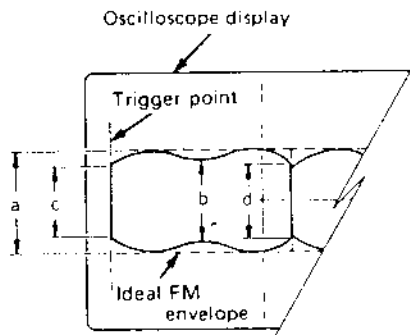

Fig. 1-6-1 FM envelope
1. Push the TRACKING +/- buttons to obtain the maximum FM envelope output corresponding to (a) level in Fig. 1-6-1. Observe the FM envelope, read the maximum level (a) and the minimum levels (b), (c) and (d). Confirm that: